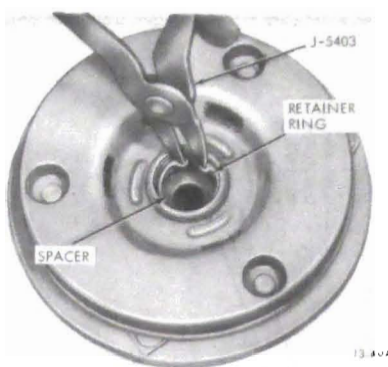

Figure 13-63 Removing or Installing Retainer Ring in Clutch Drive Plate
4. Using No. 21 Truarc pliers (J-5403) take out retainer ring from hub of clutch drive plate (see Figure 13-63). Lift out spacer.